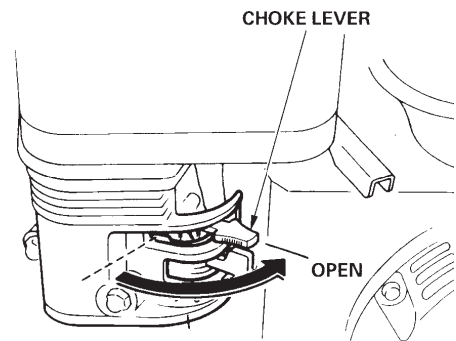

Figure 11. Engine Choke Lever (Open)
4. Place the **choke lever** (Figure 11) in the "OPEN" position if starting a **warm engine** or the **temperature is warm**.
7. If the engine has started, slowly return the choke lever (Figure 11) to the **OPEN** position. If the engine has not started repeat steps 1 through 6.